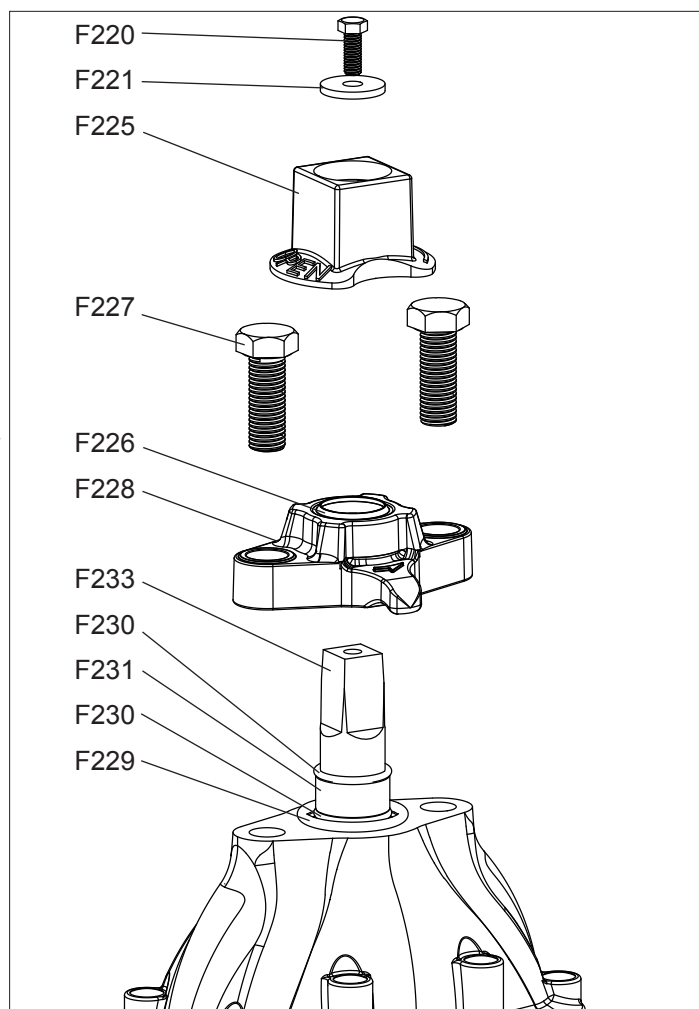
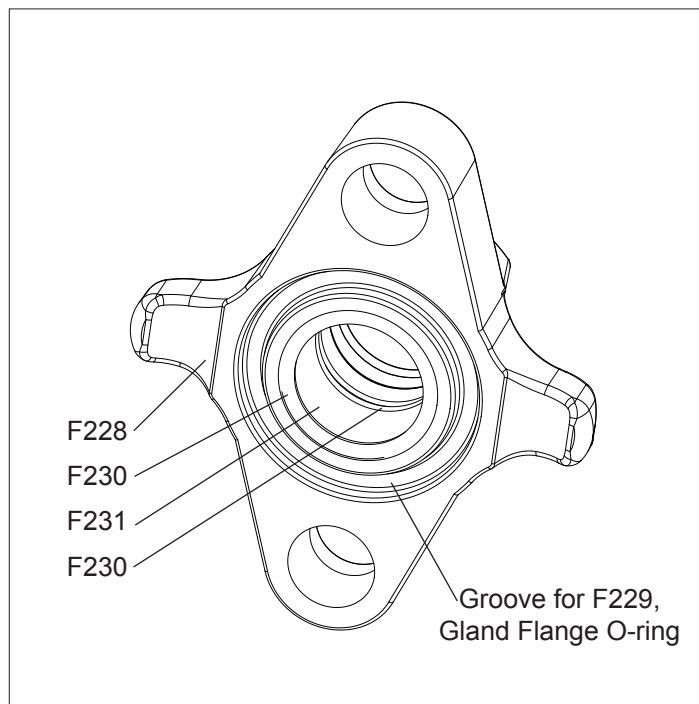

Fig. 4A
Fig. 4B
4. When performing step 3, verify the location of the Upper Stem Seal O-rings, quantity 2, (F230) and the Stem Seal Bushing (F231). They may be located on the Stem (F233), (See Fig. 4A), or in the counterbore of the Gland Flange (F228), (See Fig. 4B).
5. There is a groove in the bottom of the Gland Flange (F228), for the Gland O-ring (F229). (See Fig. 4B)